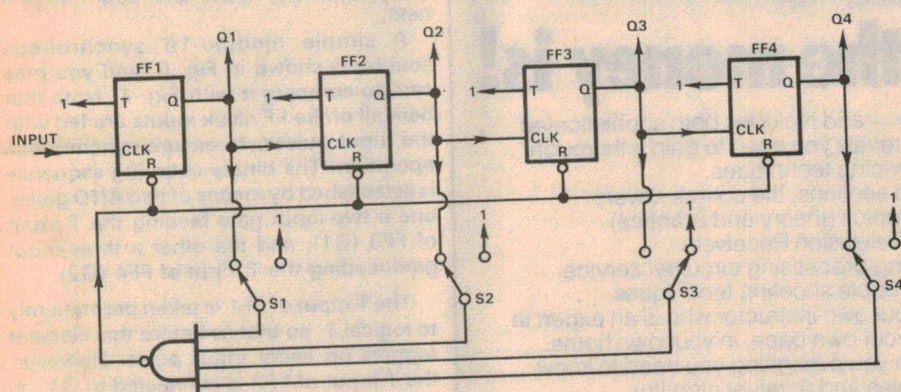

FIG. 4 : ADJUSTABLE-MODULO COUNTER (SET FOR MODULO-11)
This approach can be particularly useful where it is desired to be able to "program" a counter to any one of a number of modulo factors. This is illustrated in Fig. 4. As you can see, the output of the 4-input NAND gate connects to the R inputs of the flipflops, and is therefore able to reset the counter whenever all four of its inputs are taken to the true (1) logic level simultaneously. Each of the four gate inputs may be connected to either the output of a FF, or to the 1 level; by setting the switches S1-4 to the appropriate combination the counter may thus be given virtually any modulo between 1 and 15.